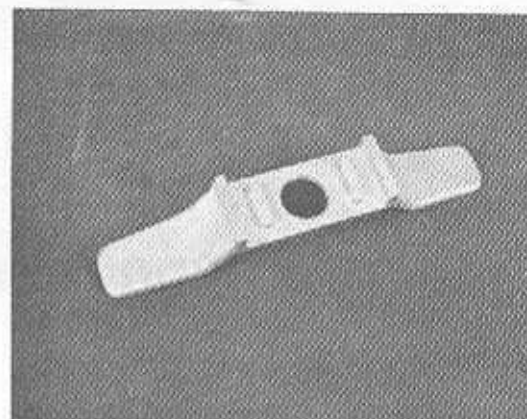

Fig. 1
3. Use seal spanner wrench (Fig. 1) to remove existing seal. Make sure bowl threads and seal areas are cleaned and free of any foreign material.
7. Tighten new seal with the spanner wrench (Fig. 1).